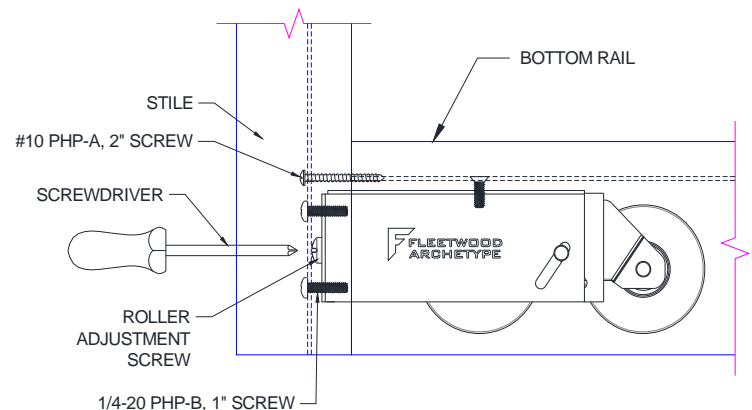

Figure 10:
1. Adjust the roller assemblies (2 required per "X" panel) to the full up right position using the adjustment screw (Figure 10).
7. Install (2) ¼-20 UNC x 1" long pan head screws to bottom of interlocker stile or lead stile. Screws attached vertical rails to Roller Housing (Figure 10).